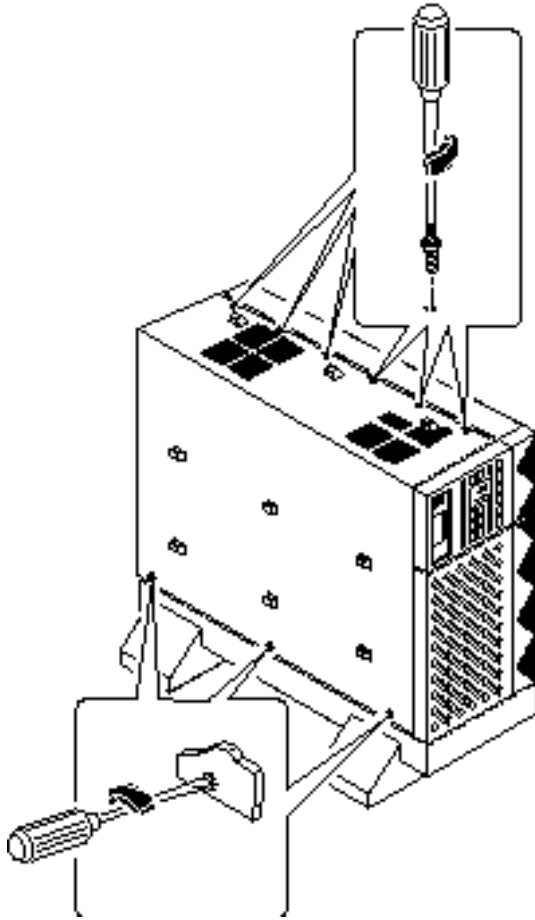

Figure 2-5 Removing the Left Inner Panel
- 3. Use the Phillips #1 screwdriver to loosen the eight Phillips-head captive screws at the side and top of the left inner panel (Figure 2-5).**